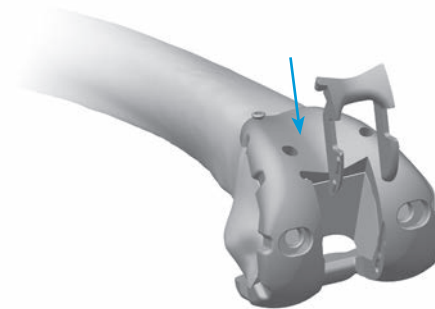

Fig. 80
- If a screw was used to provide adjunct fixation, remove the screw and the PS Box Cut Guide. By hand, insert the correct-sized PS Box Provisional into the PS Femoral Provisional to assure that adequate bone has been removed for the implant AND for proper patella trialing. Separate left and right PS Box Provisionals exist for sizes 1-2, 3-5, 6-9, and 10-12 PS Femoral Provisionals (**Fig. 80**). The Constrained Posterior Stabilized (CPS) cut slot must be used if a CPS articular surface is selected. The CPS cut slot may also be used for PS box resections. Additional information for this product may be found in the Constrained Posterior Stabilized (CPS) Surgical Technique (97-5026-072-00).